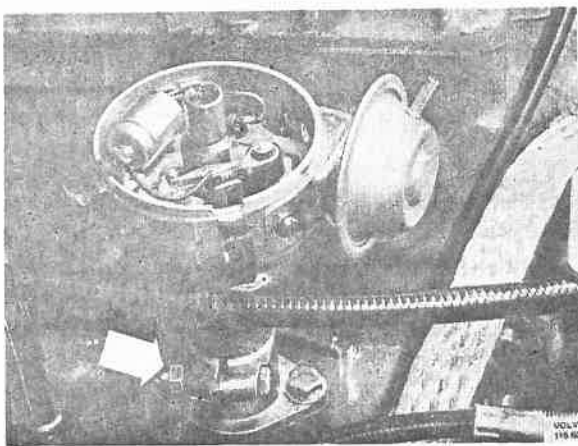

Fig. 34-9. Removing the distributor.
2. Disconnect the low-voltage cable from the distributor. Remove the vacuum hose from the vacuum regulator. Lift off the distributor arm and remove the condensation inhibitor. Slacken the retaining screw and pull up the distributor, Fig. 34-9.